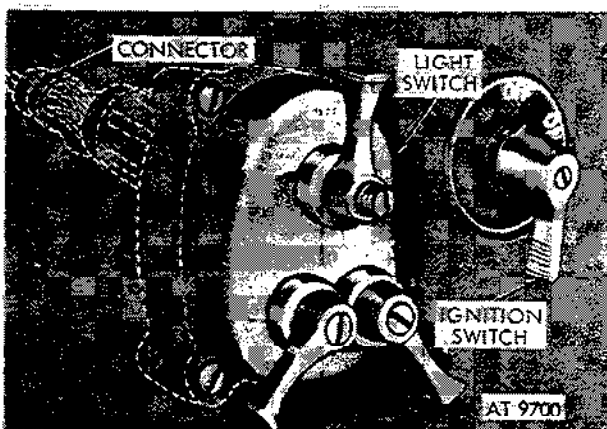

Figure 2-239. Unscrew connector behind light switch and pull connectors from ignition switch.
(25) Unscrew cable connector behind light switch. Pull connectors from ignition switch (see fig. 2-239).
(22) Disconnect connector coupling at light switch and four connectors at the ignition switch (fig. 2-239).
(23) Separate two connectors for stoplight switch (connectors are located near top of clutch pedal).